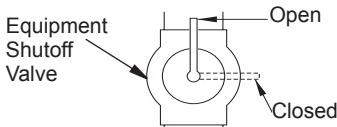

Figure 8 - Equipment Shutoff Valve
- Close equipment shutoff valve (see Figure 8).
- Open equipment shutoff valve (see Figure 8).